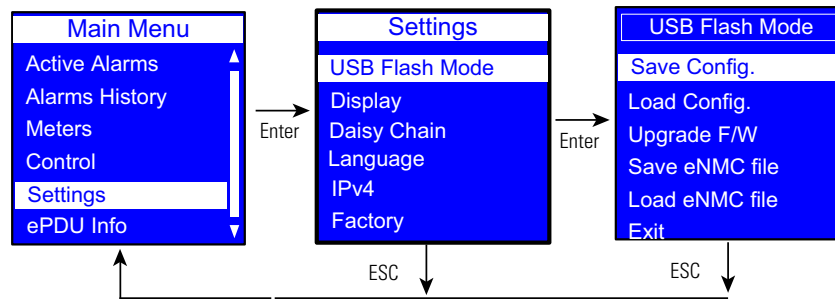

Figure 68. Example Save Config.
6. Select Save Config (see Figure 68).